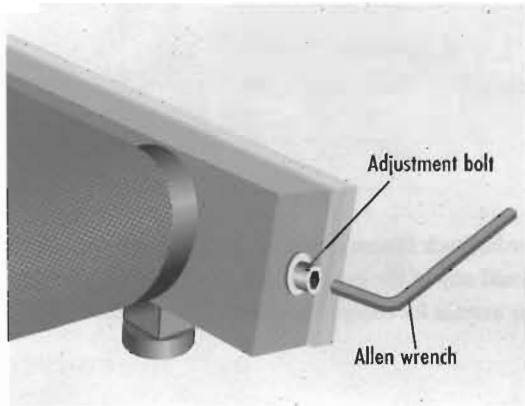

Figure 6
- Use the 3/16-inch Allen wrench provided on adjustment bolts at the rear of the treadmill deck to adjust the treadmill resistance. (Figure 6). The treadmill is properly adjusted if you are able to slip your hand between the belt and the treadmill deck.